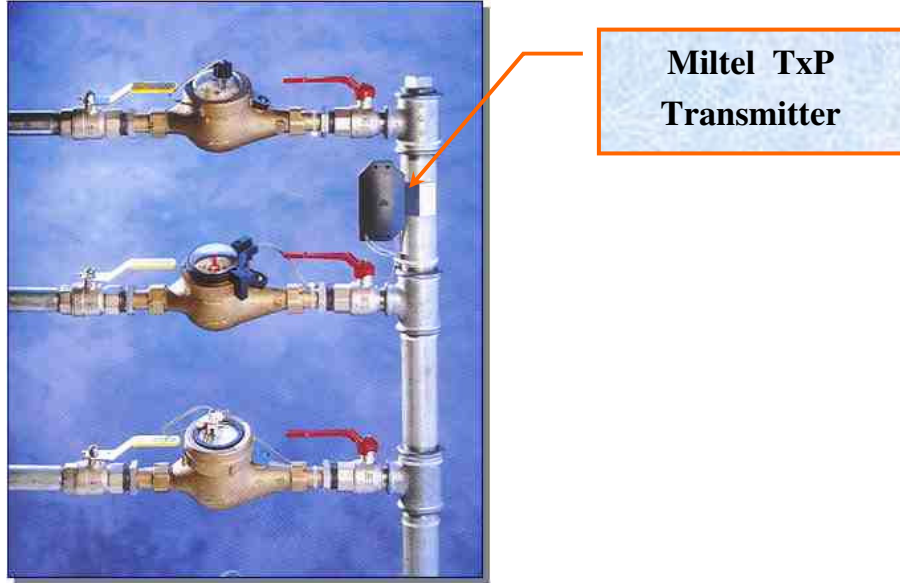

Figure 2-1: Miltel Transmitter Typical Multi Meter Installation
- 3) For pipeline installations (as in Figure 2-1), first attach the stainless steel clamp (see Figure 4-1) to the pipeline, close it around the pipeline and fasten the screw in the middle of the device. Place the unit's box base on top of the screw and install it using two steel screws.